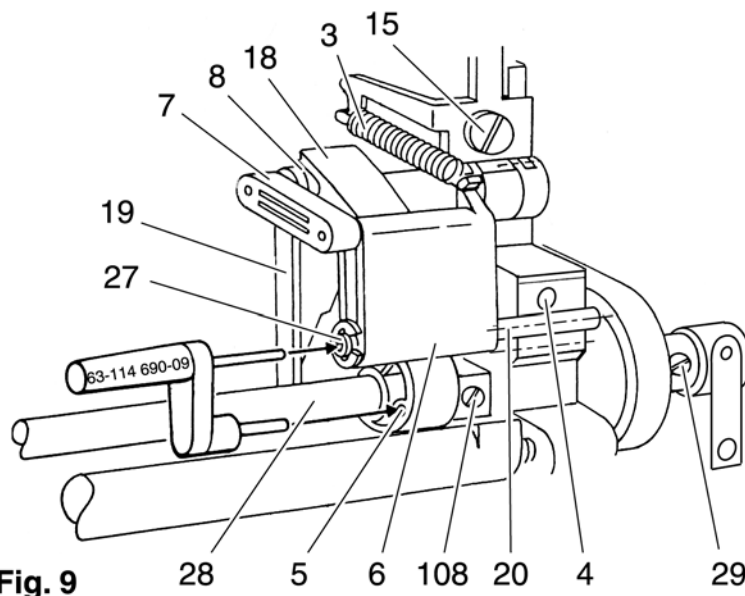

Fig. 9
When the needle bar has moved 2 mm up from its lowest position (b.d.c), it must be possible to insert the two pins of pin gauge 63-114 690-09 simultaneously in the holes of the feeding eccentric and the stud (fig. 9).
- Hold the handwheel in this position while at the same time inserting the pin gauge in the holes of feeding eccentric 5 and stud 27 (fig. 9).
- Turn the long drive shaft 28 in sewing direction until it is possible to insert the pin gauge in both holes (fig. 9).